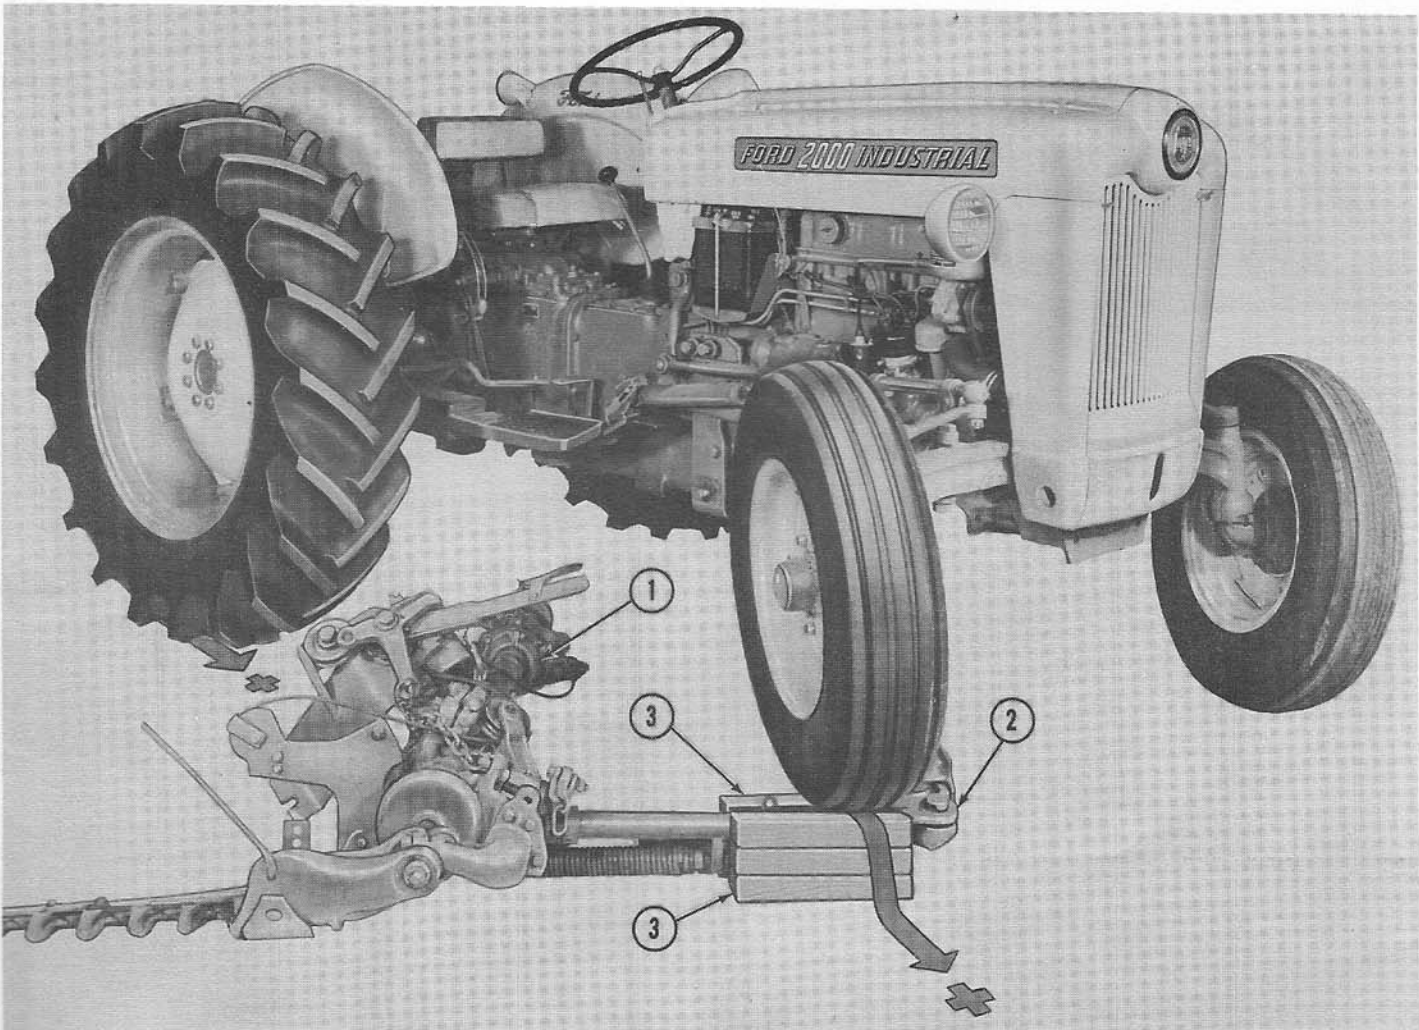
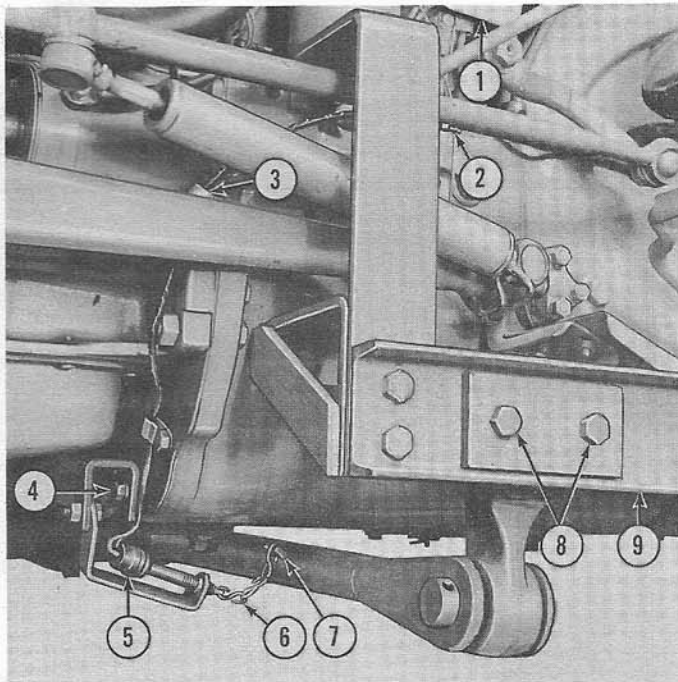

Figure 13
Figure 14
shown in Figure 13, with the drive shaft (1), as far to the left as possible, and place one foot 2" x 4"s (3) on each side of the drag bar (2).
3. Attach the drag bar (7), Figure 14, to the left frame assembly (9).
- Unhook the safety switch chain (6), Figure 14, from the lug on the drag bar (7). Remove the hook and chain from the switch so it will not tangle in weeds or other debris.
- Remove the two bolts (8) that attach the drag bar (7) to the left frame rail (9).
- Place pieces of 2'' x 4''s (3), Figure 13, on each side of the mower drag bar and turn the tractor front wheels to the right. Back the tractor slowly so the right front wheel rides over the drag bar at the 2'' x 4''s and back the tractor clear of the mower.
12. Attach the drag bar (7), Figure 14, to the frame (9).